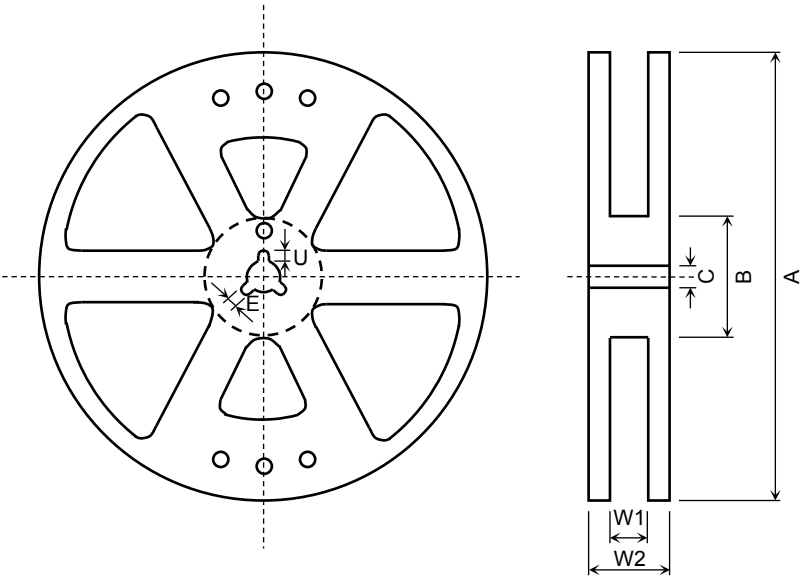

Figure 3 Reel Form
- (1) Material: Plastic
- (2) Dimensions: The reel dimensions are as shown in Figure 3 and Table 4.